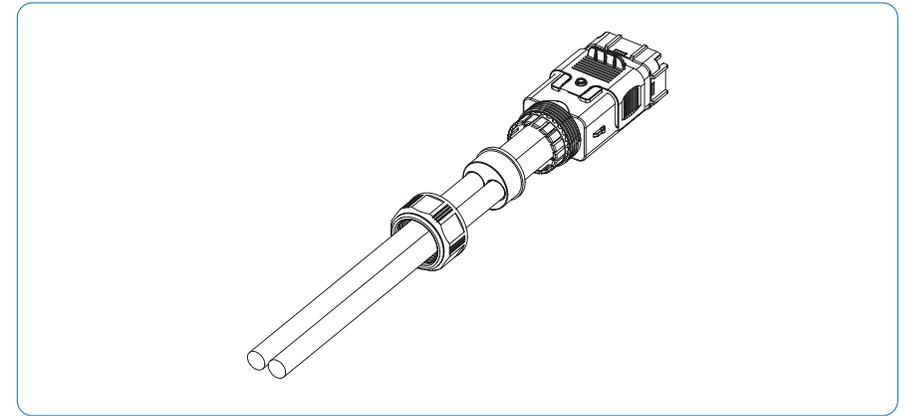

Figure 5-18
- 4) Loosen the Gland of the waterproof cover, but do not remove the Gland. Pass the battery cables through the Gland, the waterproof ring and the waterproof cover in sequence, as shown in Figure 5-18.